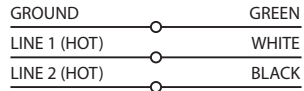
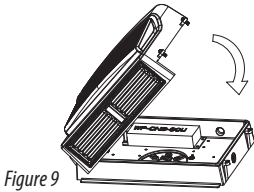

Figure 2
Figure 9
8. Before closing, connect L, N and G wires to the power supply as per **Figure 1** and **Figure 2**. (Figure 9)